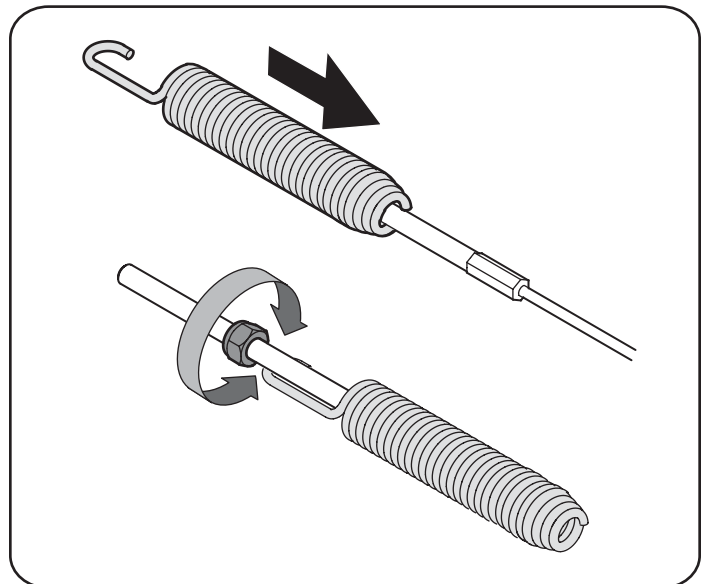

Figure 11
- Push the cable coupler through the end of the spring to expose the lock nut. See Figure 11.